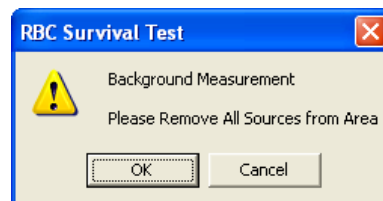

Figure 10-76
5. Next, the screen prompts you to measure background counts as shown in Figure 10-76.